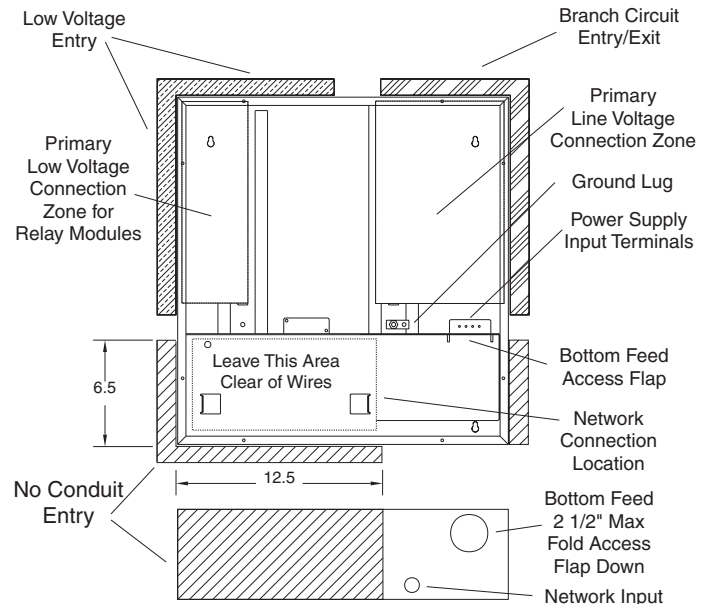

Figure 3 - Recommended Conduit Entry Locations
3. Do not install conduit where "No Conduit Entry" is noted in figure 3.
3. **Choose Conduit Entry Locations** — Choose desired location of main or branch circuit entry and exit from the cabinet. Choose desired entry points for low voltage inputs, and network wiring. See *Figure 3*. Bottom access is allowed only where shown in *Figure 3*. Top access is strongly recommended.